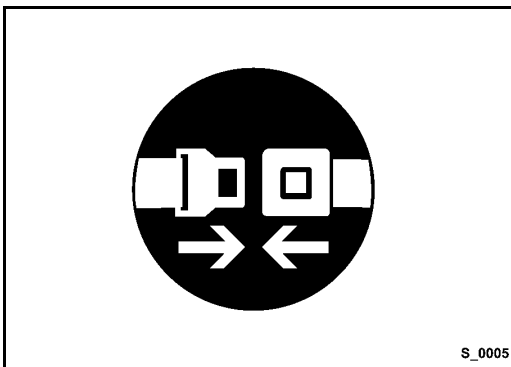

Fig. 53
- Fasten your seat belt (Fig. 53).